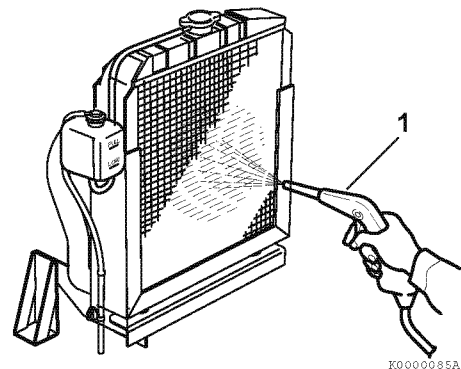

Figure 8
Note that a typical radiator is shown in **Figure 8** for illustrative purposes only.
- Blow off dirt and dust from fins and radiator with 28 psi (0.19 MPa, 2 kgf/cm²) or less of compressed air (1, **Figure 8**). Be careful not to damage the fins with the compressed air.